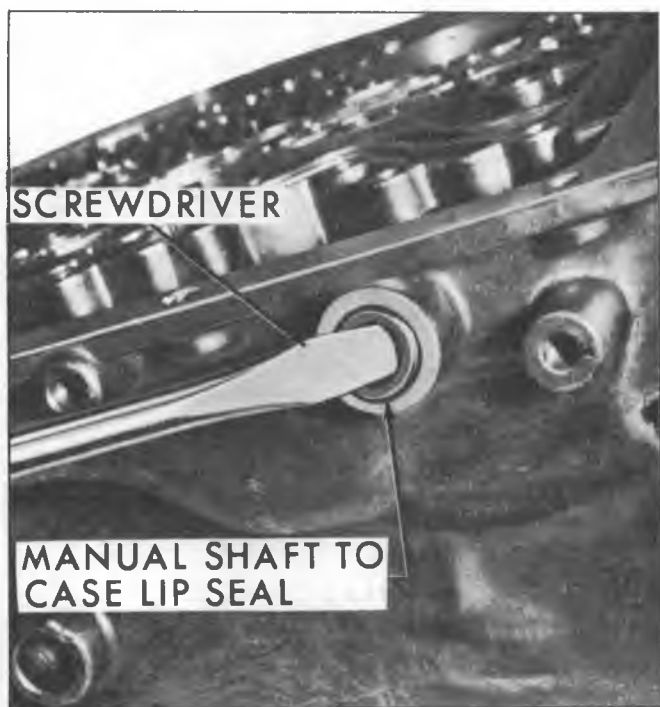

Fig. 22M—Removing Manual Shaft to Case Lip Seal
11. Remove manual shaft to case lip seal (fig. 22M).